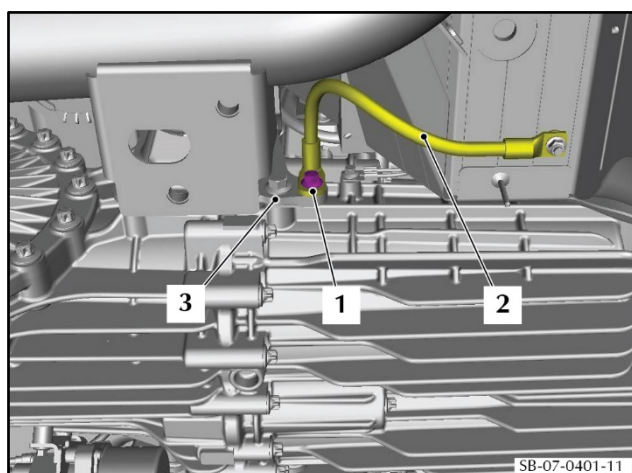

Figure 61
- 119.** Install the bolt (1) that attaches the ground cable (2) to the transmission mount bracket (3) (refer to Figure 61).